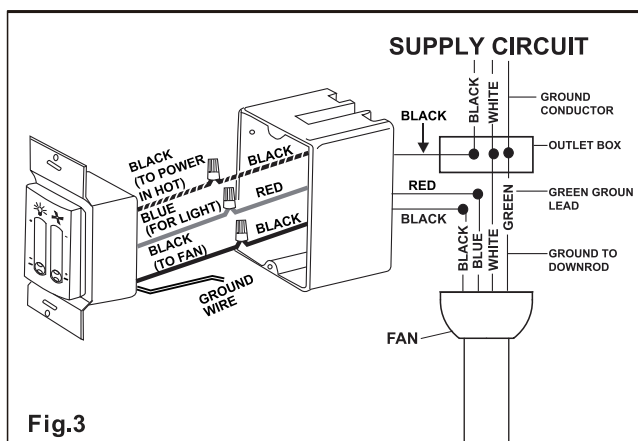

Fig.3
Step 2. Set the knob of light on the wall control in the - position and set the knob of speed on the wall control in the - position.(Fig.3)
Step 3. Make wire connections (Fig. 3) and secure with wire nuts supplied.
- Blue wire from fan to blue wire marked "for light" from light control through a red wire which is shown in Fig.3, The red wire may be a different color depending on your location if your unsure please consult with a qualify electrician.